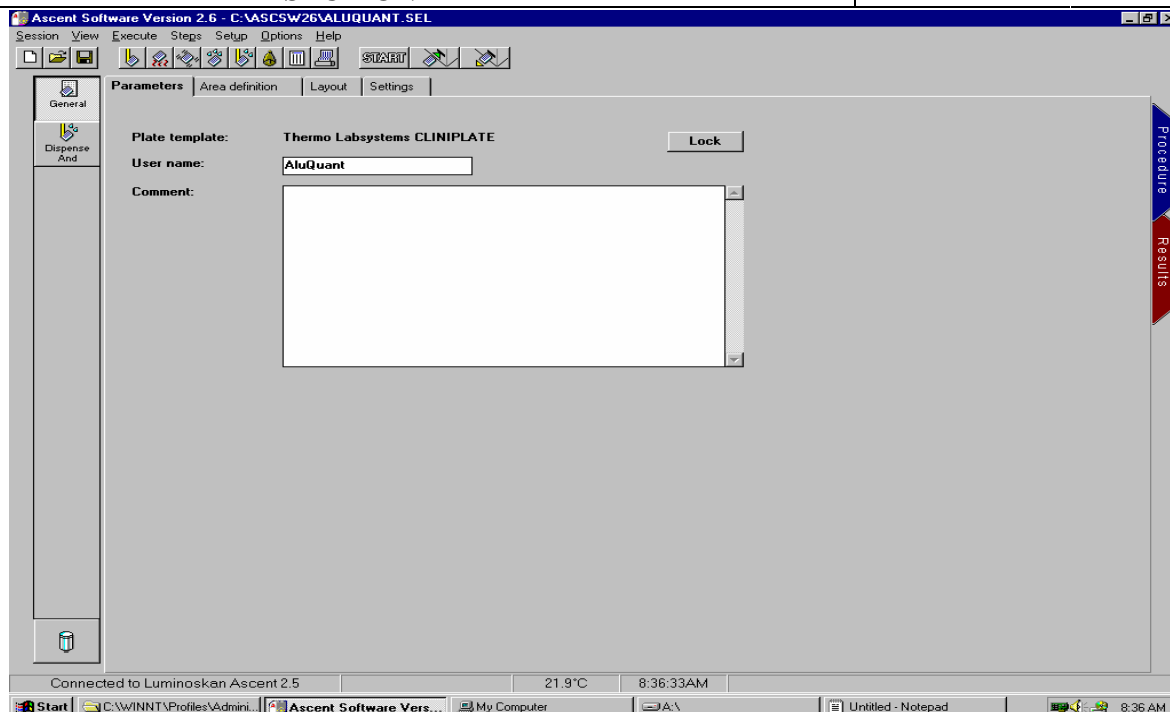

Figure 6. Ascent Session window.
- 4.5.16.1 The following window (Figure 6) will appear which will have a variety of functions listed at the top left.